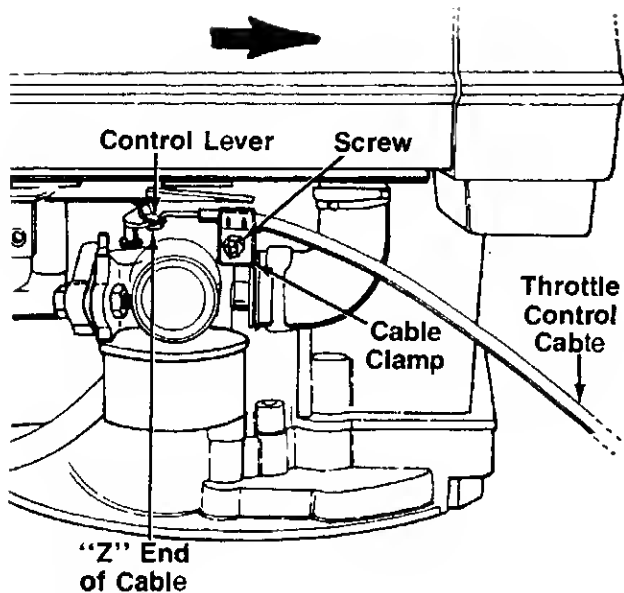

FIGURE 6.
2. The throttle control cable is attached to the upper handle. Route the throttle control cable under the lower handle, inside the handle mounting bracket and underneath the catcher panel. Hook the "Z" end of the throttle control cable into the hole in the control lever on the engine. See figure 6.
3. Loosen (do not remove) the screw on the cable clamp shown in figure 6. Slip the control casing under the clamp (cable must move freely beneath the clamp).